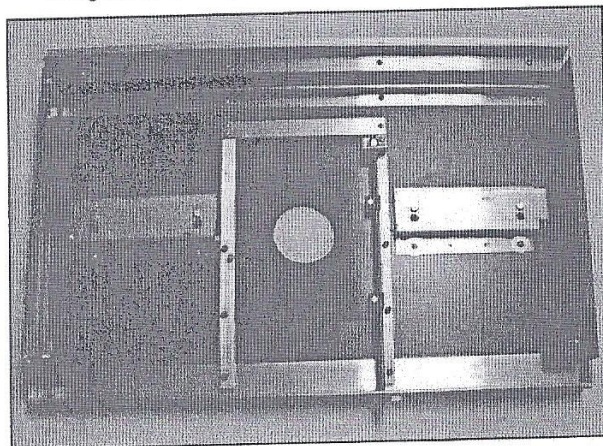

Figure 1. RouterShop top
- Place the RouterShop table on a flat surface with the bottom of the table facing up. If the table is to be assembled on concrete, use a portion of the cardboard packing material and place it between the concrete and tabletop to protect the table (Figure 1).